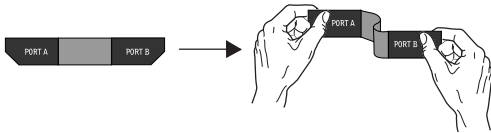

Figure 1. Preparing TDM FlexCable for installation
**1** The FlexCable needs to be shaped before it can be used. To do this, grasp it with both hands, then move the Port B portion of the cable straight towards you and inwards as shown in Figure 1. Do not bend the cable more than you need to, as you may damage the traces in the cable.